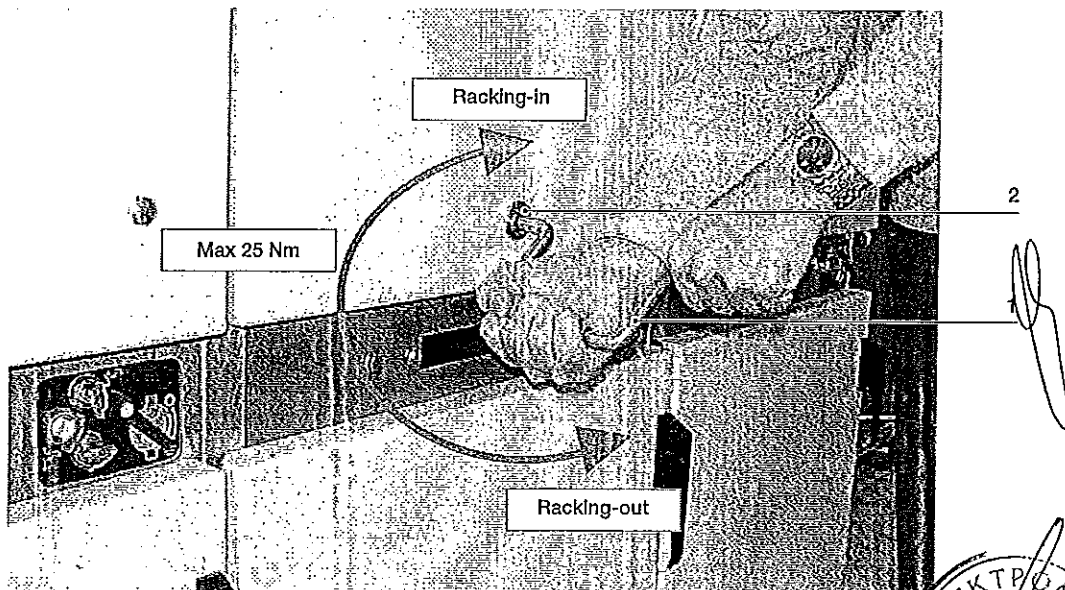

Fig. 9
For racking-in/racking-out of the switchgear, fully insert the lever (1) (fig. 9) in the appropriate seat (2) and work it clockwise for racking-in, and anti-clockwise for racking-out, until the limit switch positions are reached.
- Insert the manual racking-in lever (1) in the special coupling (2) Fig. 9, and take the motorized truck to about half its run between the isolated for test and the connected position. The torque needed to carry out truck handling is $\leq 25 \text{ Nm}$. In the case of accidental inversion of the truck motor power supply polarity, this operation allows a possible error in direction to be dealt with without any damage. Verification checks:
- Remove the manual lever (1) from the coupling (2) Fig. 9